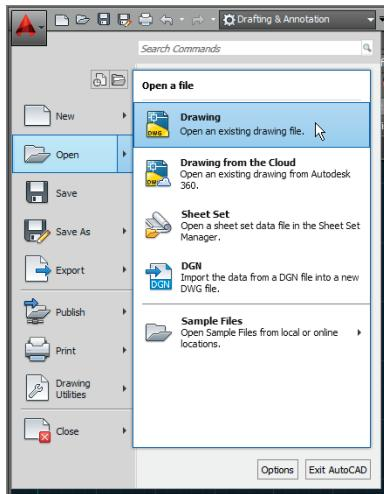

FIGURE 1.6 Opening a drawing from the Application menu
2. Click the red X at the extreme right edge of the search box to make the initial Application menu interface reappear. Here you can create new or open existing drawings, export or print drawings, and more. Hover the cursor over **Open**, and then click **Drawing** (Figure 1.6).